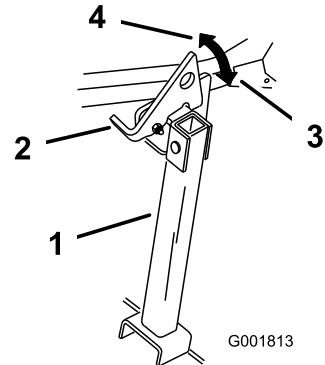

Figure 46
2. Raise the latch to the unlocked position (Figure 46).